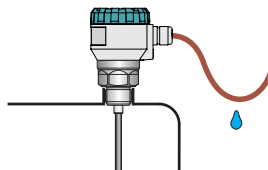

Fig. 16: Prevention to avoid intrusion of humidity through cable gland
- It is appropriate to lead the cable underneath the cable terminal (through the dip diagonally downwards) This will prevent potential "ingression of moisture through the cable grommet. Thereby, rain and condensing water can flow away freely, fig. 16.